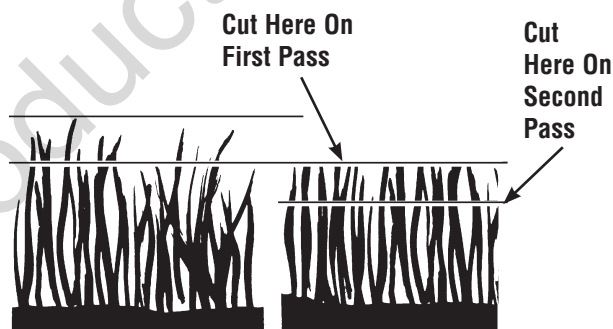

Figure 15. Incremental Cutting
2. Remove the oil drain hose (**A**, **Figure 18**) from the cable clamp (**B**) on the right-hand side of the frame and route the hose through hole in the engine deck as shown in **Figure 15**.